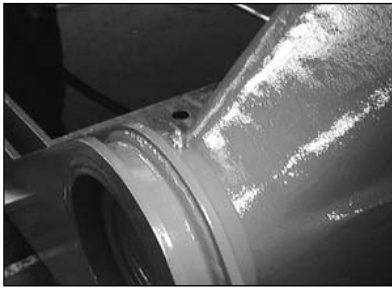

fig. 42
- Fig. 42 shows the lubricator of the pendulum beam.